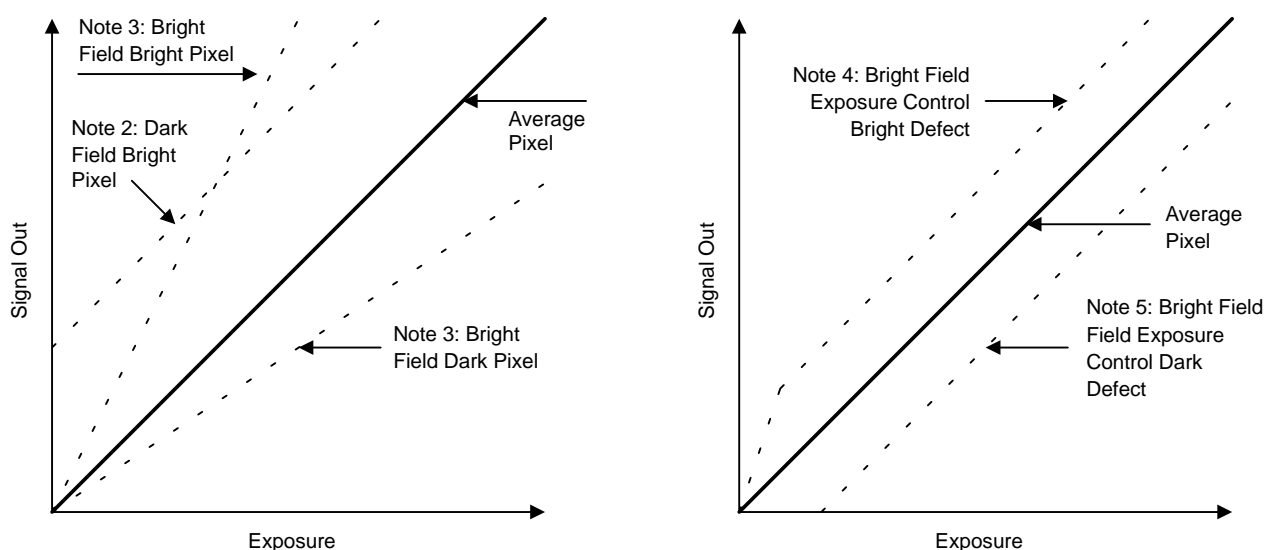

Figure 6. Illustration of Defect Classifications
2. Pixels whose response is greater than the average response by the specified threshold. See Figure 6 below.
3. Pixels whose response is greater or less than the average response by the specified threshold. See Figure 6 below.
4. Pixels whose response deviates from the average pixel response by the specified threshold when operating in exposure control mode. See Figure 6 below.